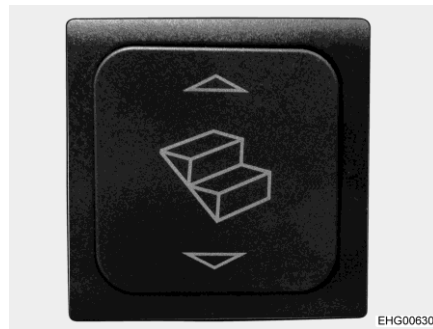

Fig. 3 Rocker switch for entrance step
- Press the rocker switch (Fig. 3) down until the entrance step has extended completely.
- Press the rocker switch (Fig. 3) up until the entrance step has retracted completely.